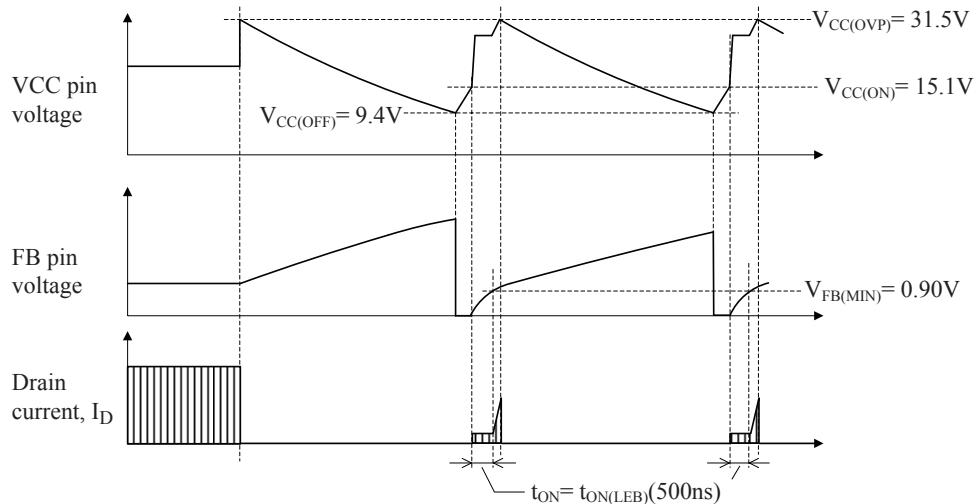

Figure 37. Waveforms when VCC pin OVP is being activated (LC552xD and LC552xF)
- VCC Pin Overvoltage Protection. figure 37 shows the waveforms of the OVP function. When the VCC pin voltage with reference to the S/GND pin reaches and exceeds $V_{CC(OVP)} = 31.5$ V or more, OVP is activated and the IC stops switching operation.